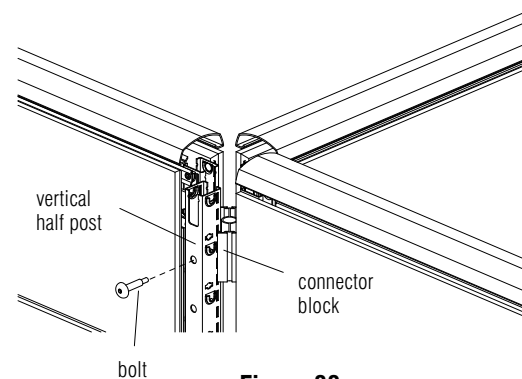

Figure 88
2. Bolt a new half post into the connector block and continue to install the additional panels as described in the previous sections. **Figure 88.**